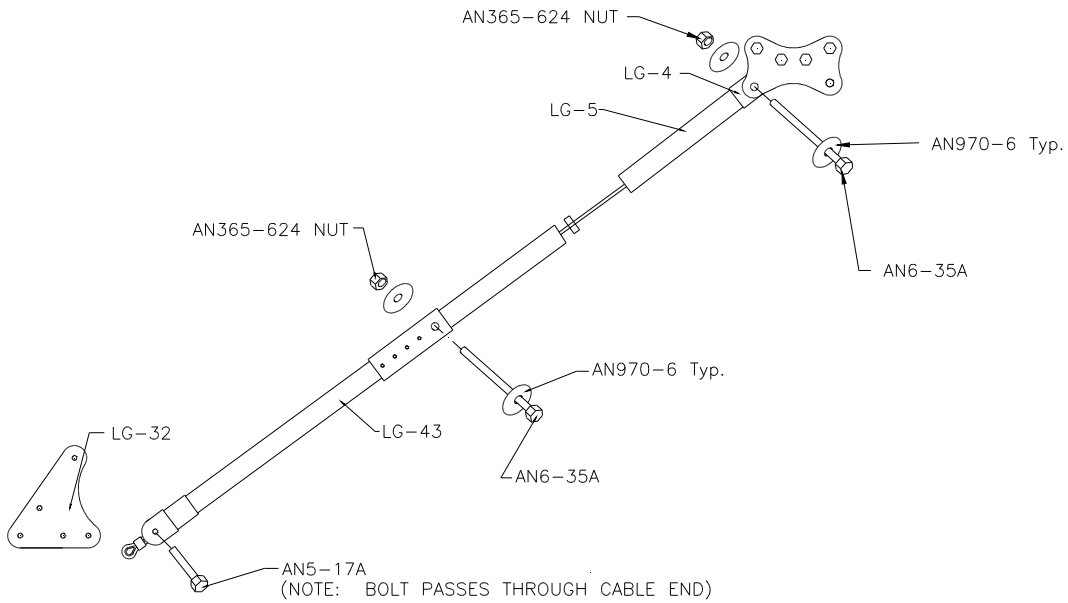

Figure 15.3.5
8) Assemble as in Figure 15.3.5, also see the assembly drawing at the beginning of this section for bolt sizes etc.